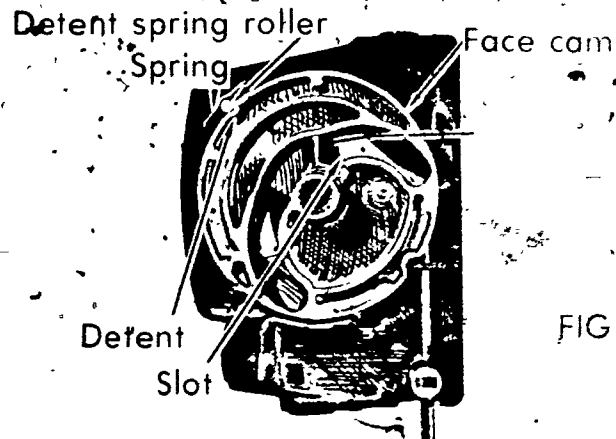

FIGURE 3
4. Install detent spring and detent spring roller (Figure 3)